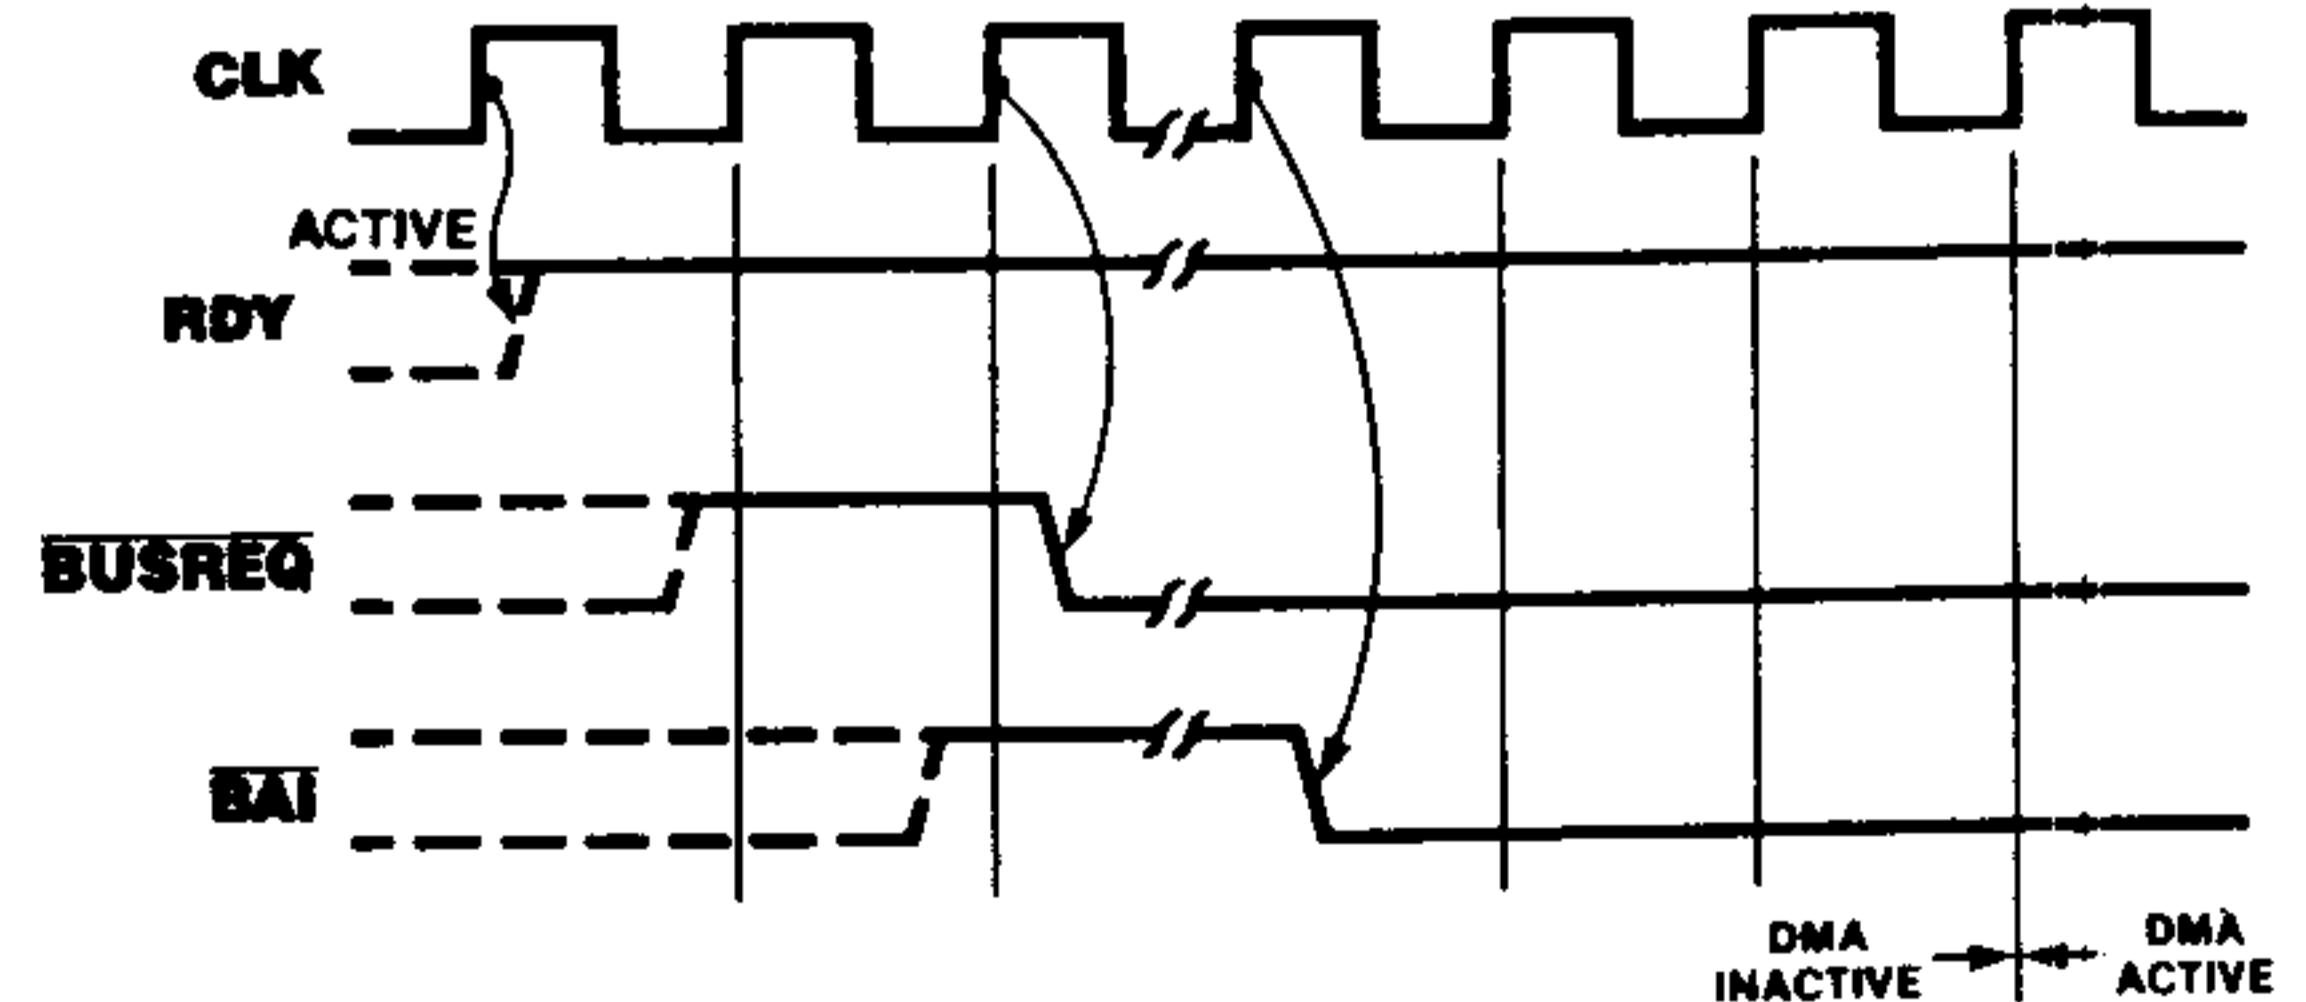

Figure 15. Bus Request and Acceptance
**Bus Requests.** Figure 15 illustrates the bus request and acceptance timing. The RDY line, which may be programmed active High or Low, is sampled on every rising edge of CLK. If it is found to be active and if the bus is not in use by any other device, the following rising edge of CLK drives BUSREQ Low. After receiving BUSREQ, the CPU acknowledges on the BAI input either directly or through a multiple-DMA daisy chain. When a Low is detected on BAI for two consecutive rising edges of CLK, the DMA will begin transferring data on the next rising edge of CLK.